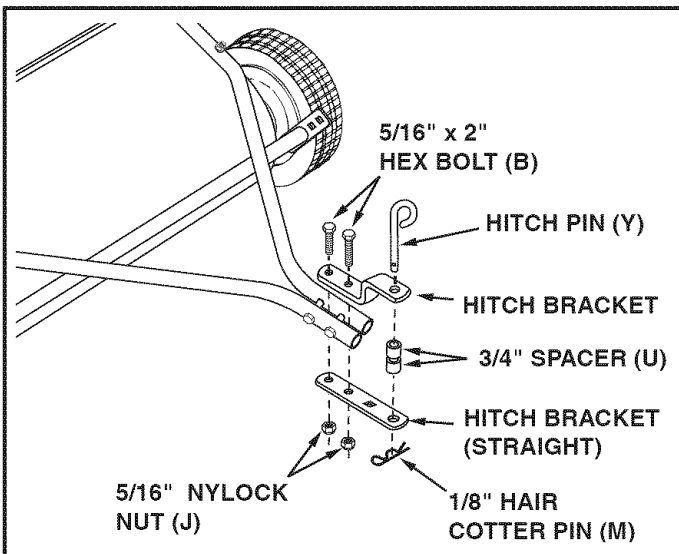
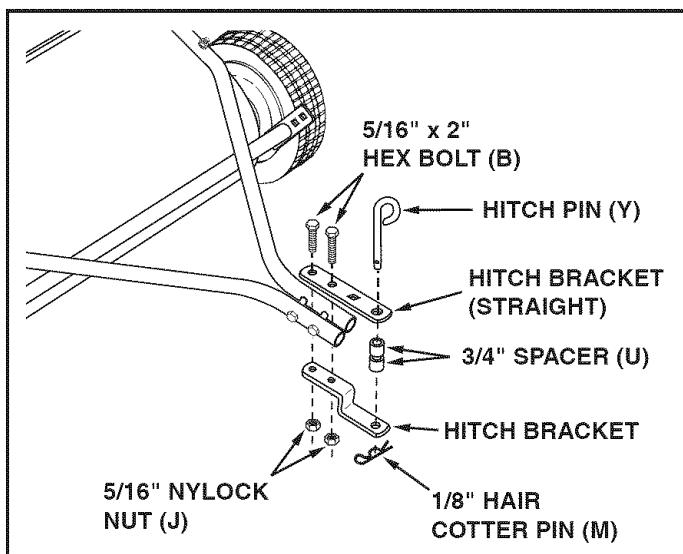

FIGURE 7
FIGURE 8
STEP 7: (SEE FIGURE 7 AND 8)
If your tractor hitch has 10" to 13" ground clearance refer to figure 7. If your tractor hitch has 8" to 10" ground clearance refer to figure 8.